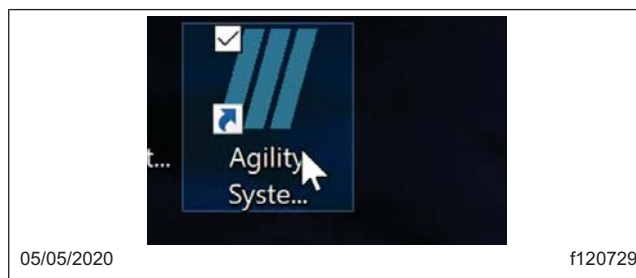

Fig. 20, Agility Icon on the Desktop
1. Double click the Agility icon on the desktop. See Fig. 20.